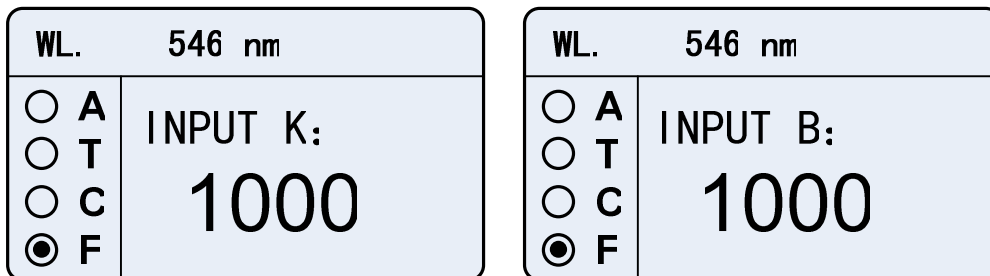

Fig. 4-9
- 3) Press  or  to set the coefficient value of K and B, followed with  pressed to confirm. (Fig. 4-9) Then you can test the samples as the following steps..